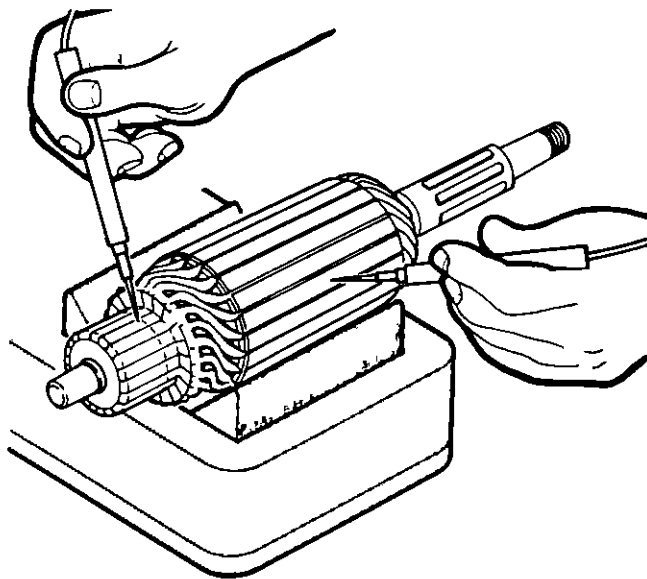

Figure 52. Testing Armature for Ground.
- A Place armature in growler jaws and turn power switch to TEST position. Figure 52